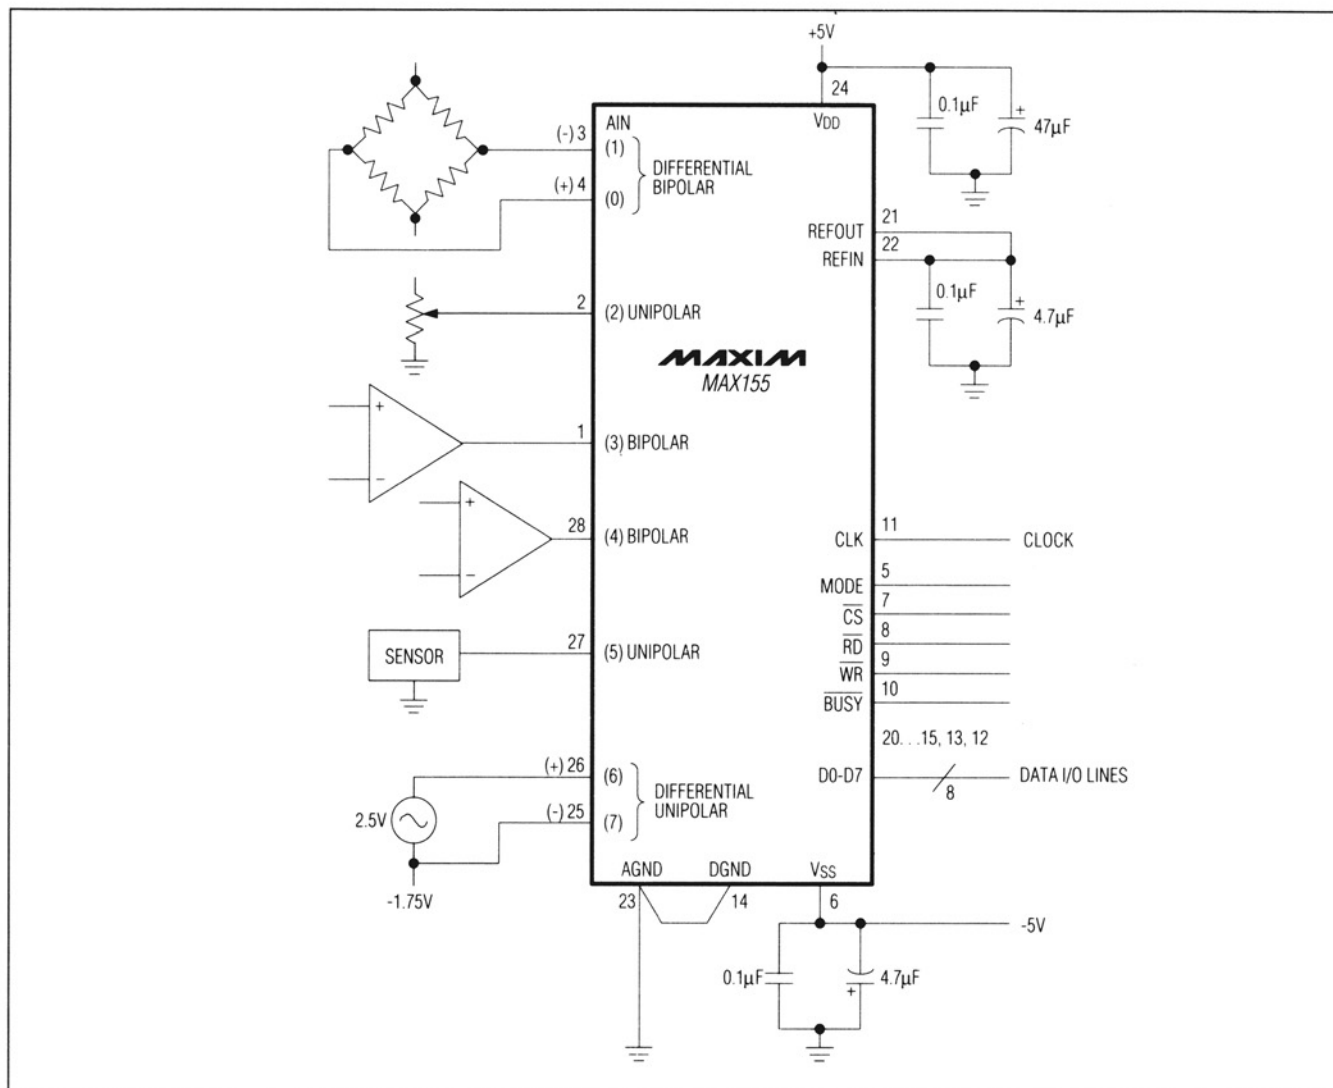

Figure 10. MAX155/MAX156 Typical Operating Circuit
where N is the number of channels converted. This includes one clock cycle of uncertainty. For a single channel and 5MHz clock, the conversion time is  $(9 \times 1 \times 2) / 5MHz = 3.6\mu s$ . For the MAX155, the maximum conversion time for 8 channels is  $(9 \times 8 \times 2) / 5MHz = 28.8\mu s$ . In the application example (Figure 10), six conversions are configured, and the conversion time is  $(9 \times 6 \times 2) / 5MHz = 21.6\mu s$ .
MAX155/MAX156 address and configuration inputs for this example were determined by selecting the desired channel configurations in Tables 2 and 3. Figure 10 illustrates the configuration outlined in Table 5.
3. Data is read from RAM with  $\overline{INH} = L$  and consecutive  $\overline{RD}$  strobes. Note that in the 6 channel configurations described in this example (Figure 10), 6  $\overline{RD}$  pulses access all available data, starting with the differential channel (1,0). Additional  $\overline{RD}$  pulses loop around, accessing the lowest channel data again.